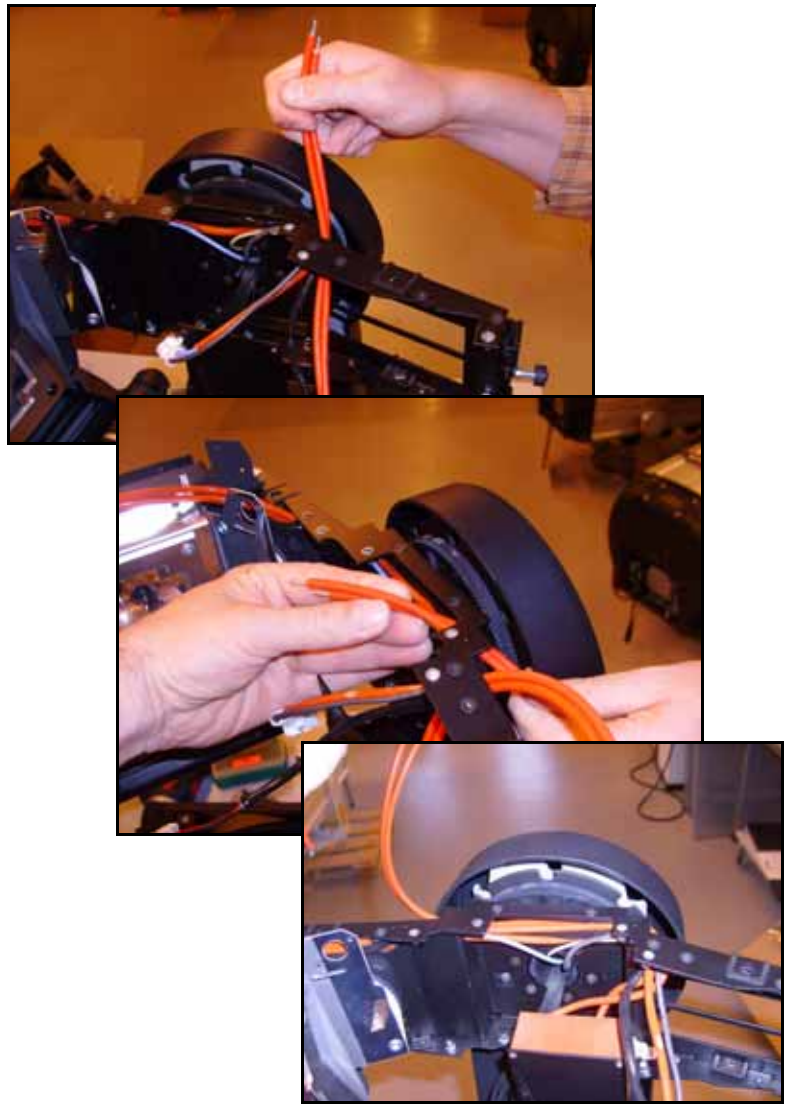

Figure 55
60. See Figure 55. Hold the ignitor loosely in position and route the lamp leads from the ignitor back towards the lamp compartment as the original leads were routed.